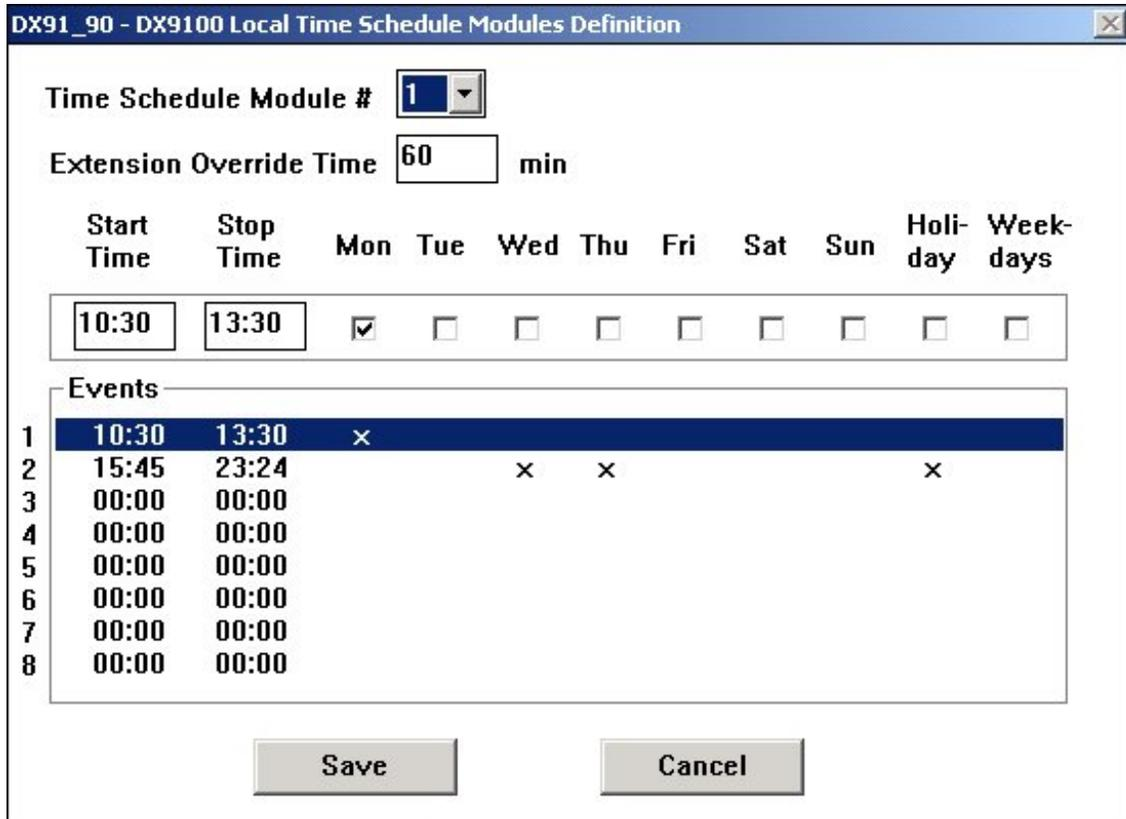

Figure 9-11: DX9100 Local Time Schedule Modules Definition Dialog Box
3. On the Action menu, click Modify Local Time Schedule. The DX9100 Time Schedule Modules Definition dialog box appears (Figure 9-11).
Note: The name in the title bar of the dialog box varies depending on the name of the DX-9100. In Figure 9-11, for example, the name of the DX9100 is DX91_90. Therefore, DX91_90 appears in the title bar.